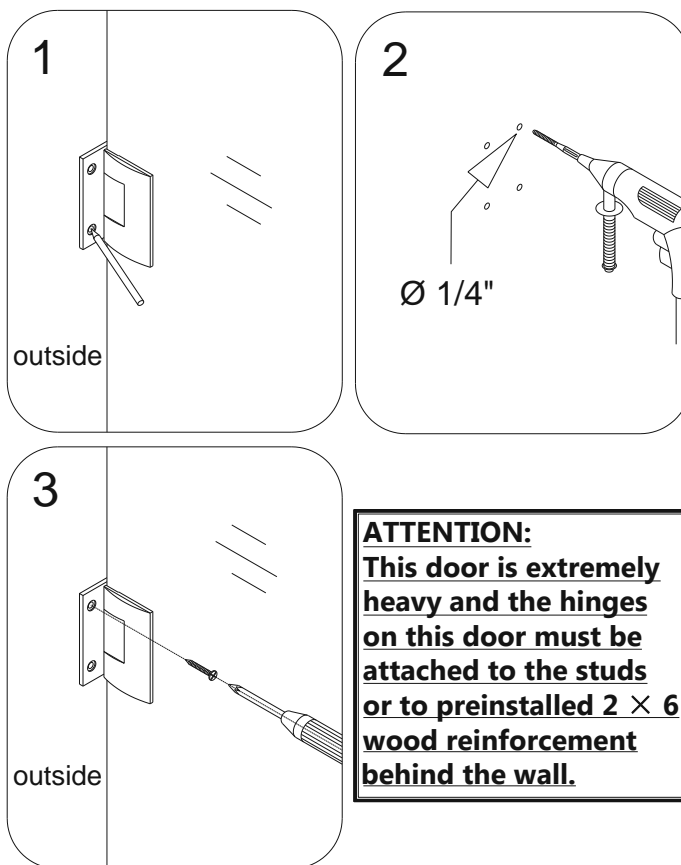
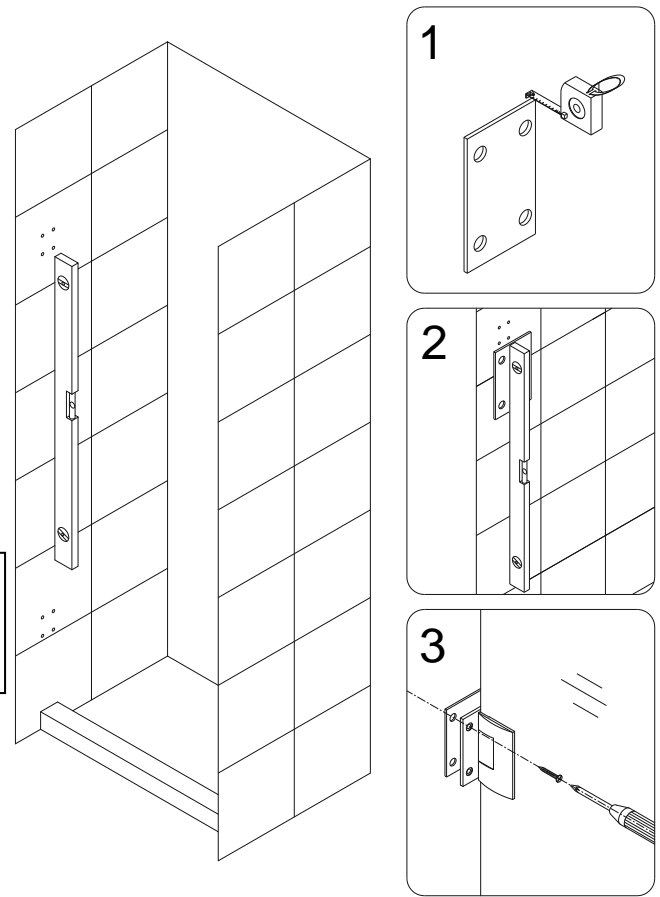

Fig. 3
Fig. 4
3. Hold the door in place and mark the drill holes for both **Hinges (05)** on the wall. Set the door aside and use a  $\text{\O} 1/4"$  drill bit to drill holes up to the stud. Drill 1/8" pilot holes into the stud if necessary.
**The included PVC hinge spacers (31) are provided to compensate for minor out-of-plumb wall conditions. Use only as necessary as their use could compromise the opening size of your shower. Please see Fig 4 for an installation example\*.**
4. Place the **Door Glass (01)** back onto the threshold along with the 5/8" spacers and attach both hinges to the wall with two **Countersunk screws ST5x70 (04)** on the hinge from outside of the shower. Then open the door and install the remaining screws to both wall plates from the inside.
**(Fig 3 and Fig 4)**